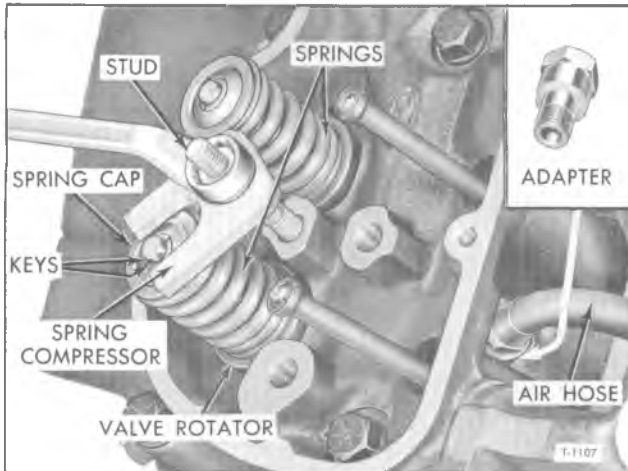

Figure 32—Use of Special Equipment for Replacing Valve Spring (V6 Engine)
When it is necessary to replace a valve spring and/or seals on valve stems, the special tools shown in figure 32 may be used to facilitate the operation without removing the cylinder head. Proceed in following manner to replace valve spring and retaining parts:
5. Assemble valve spring compressor (J-21544) and nut on stud as shown in figure 32, then with wrench, turn nut to force compressor down
6. If valve rotator is replaced, be sure to position rotator on cylinder head with spring pilot on top. Set valve spring on rotator with close-wound coils toward cylinder head. Place spring cap on spring and use compressor in same manner as shown in figure 32 to compress valve spring. On intake valves, install new oil seal in lower groove in valve stem. Insert two keys in valve stem grooves, then back off stud nut to release pressure on valve spring. Be sure keys engage groove in valve stem. Remove compressor, stud and nut from cylinder head.